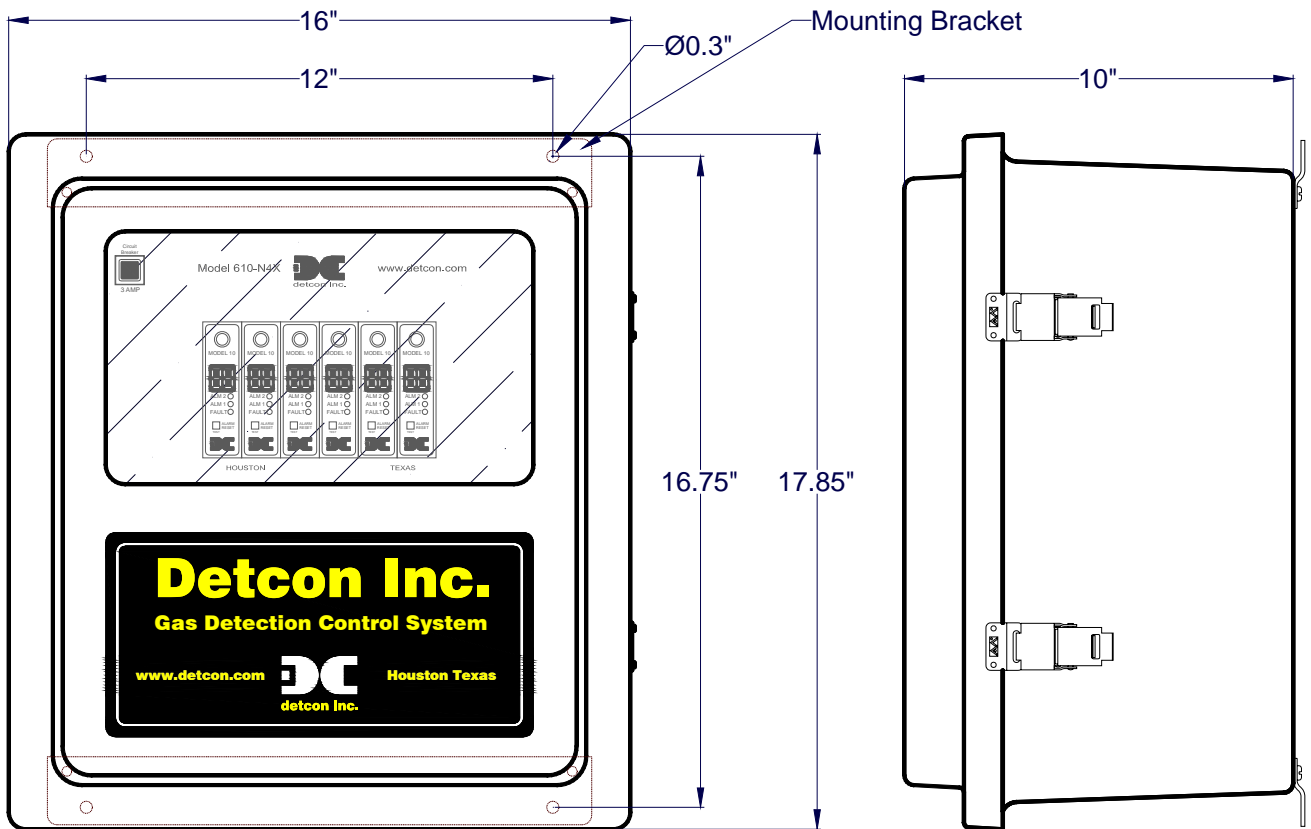

Figure 2 Mounting
1. Securely mount the 610-N4X Enclosure in accordance with Figure 2.